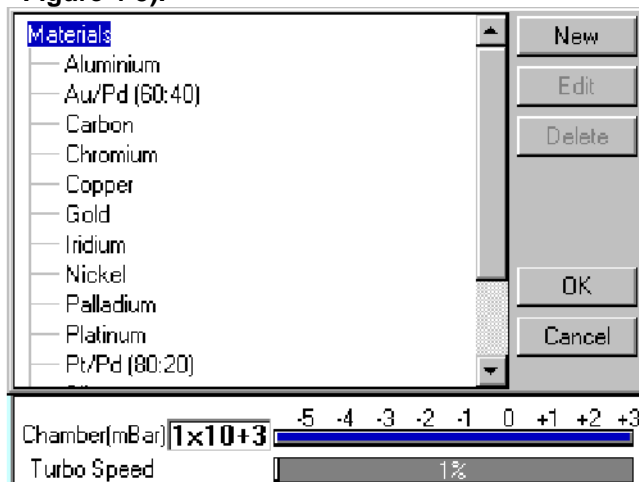

Figure 4-5. Materials Editor
1. Select Edit | Materials from the menu bar. *Materials Editor* is displayed (see Figure 4-5).
1. Select Edit | Materials from the menu bar. *Material Editor* is displayed (see Figure 4-5).